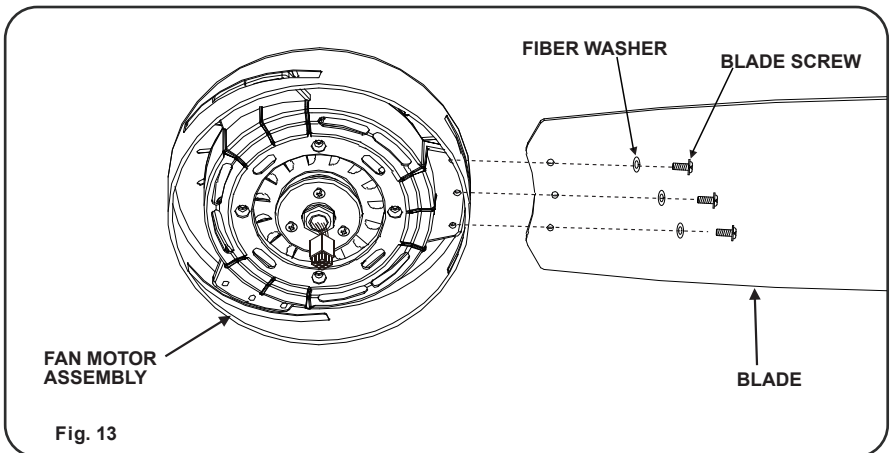

Fig. 13
Step 1. Insert the blade through the slot on the fan motor assembly. (Fig.13)
Step 2. Attach the fan blade to the fan motor assembly using the three blade screws and three fiber washers securely. (Fig.13)
Step 3. Repeat this step with the other two blades. (Figure 13)